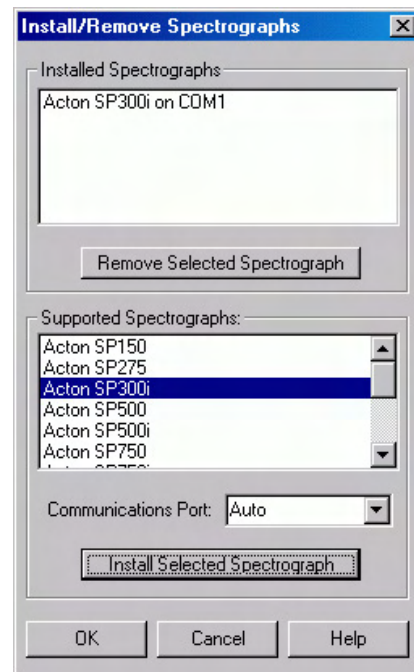

Figure 28. Install/Remove Spectrographs
6. Click on **Install/ Remove Spectrograph**. This will open the Install/Remove Spectrographs dialog box (Figure 28). The lower window lists the supported Spectrographs. The upper window lists those installed. To install a spectrograph, select it from the list in the lower window, select the Communications Port (Auto, COM1-COM8, or DEMO) and click on **Install Selected Spectrograph**. The installed spectrograph will then appear in the upper window. In the case of the example shown in Figure 28, the selected spectrograph is an Acton SP300i.